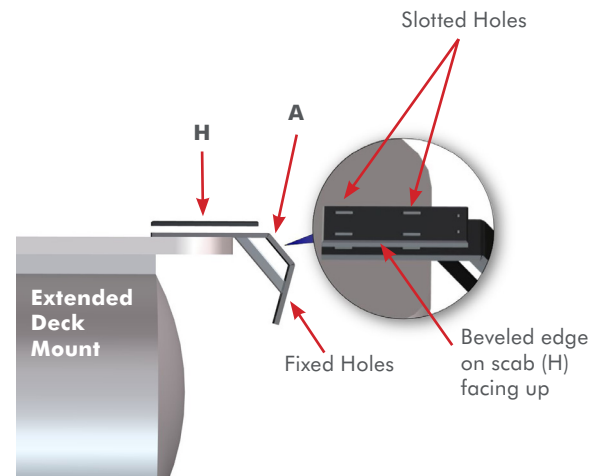

Figure 1
- 1.1 Place the deck mount adapter plate (A) & deck mount scab (H) on top of the boat deck directly behind the pontoon. The deck mount scab (H) has a beveled edge that should face up. **FIG. 1.**